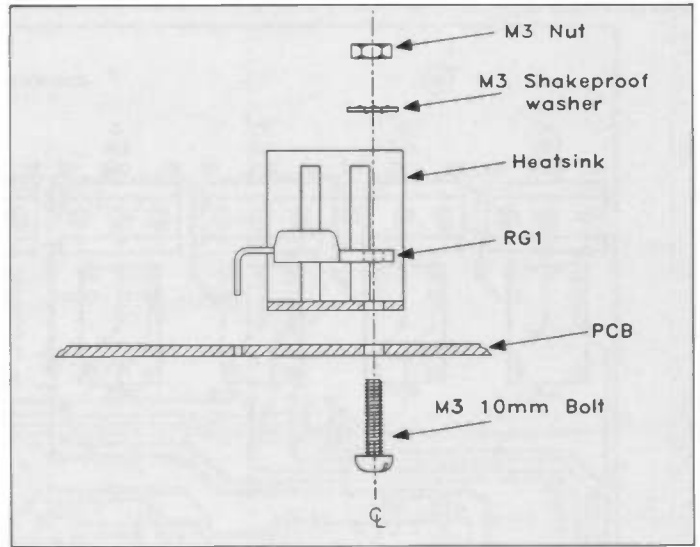

Figure 6. Assembling regulator RG1.
10. The 12V regulator IC RG1, along with its heatsink (see Figure 6), using the single M3 × 10mm bolt, nut and washer. Only solder the leads to the board after it is correctly positioned and secure.